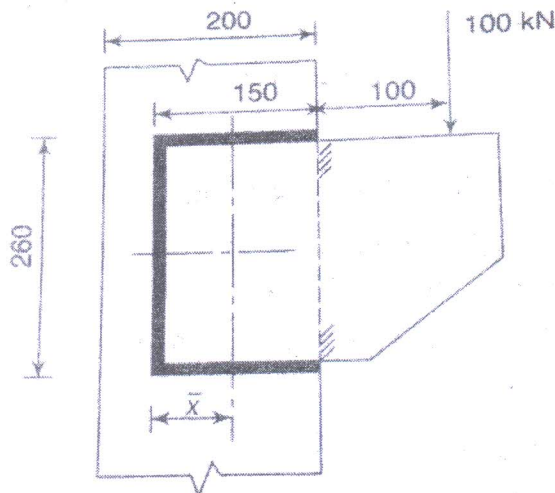

Fig.3
- Q 2 b) A bracket plate is welded to the flange of a column ISHB 200 as shown in Fig 3 **06**. Calculate the size of the weld required to support a factored load of 100 kN. All dimensions in mm .